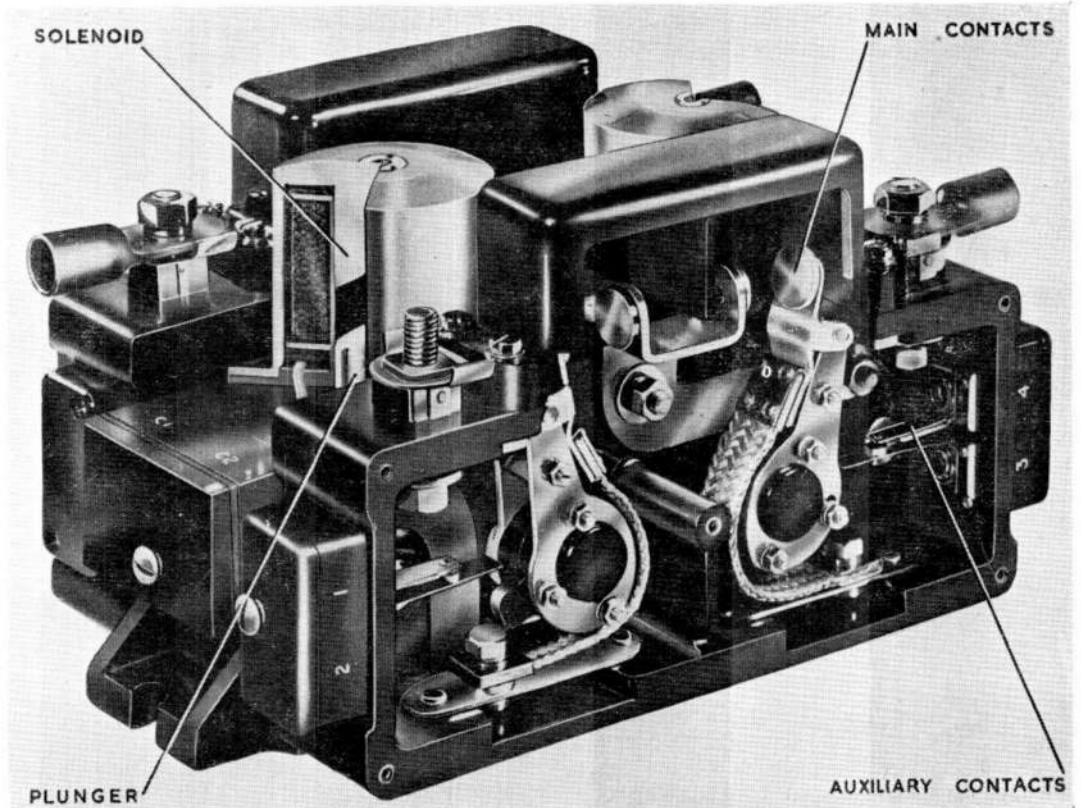

Fig. 1. Part sectional view of a typical switch (D9300 series)
3. The main terminal post assemblies and the auxiliary or shunt field terminal blocks (fig. 1) are fitted directly to, and mounted externally on, each of the switch housing.
5. A part sectional view of a typical magnetic switch is given in fig. 1. This illustrates the arrangement of the terminals, solenoids and contacts. The unit is provided with two mounting lugs, one of which may be seen in the illustration.